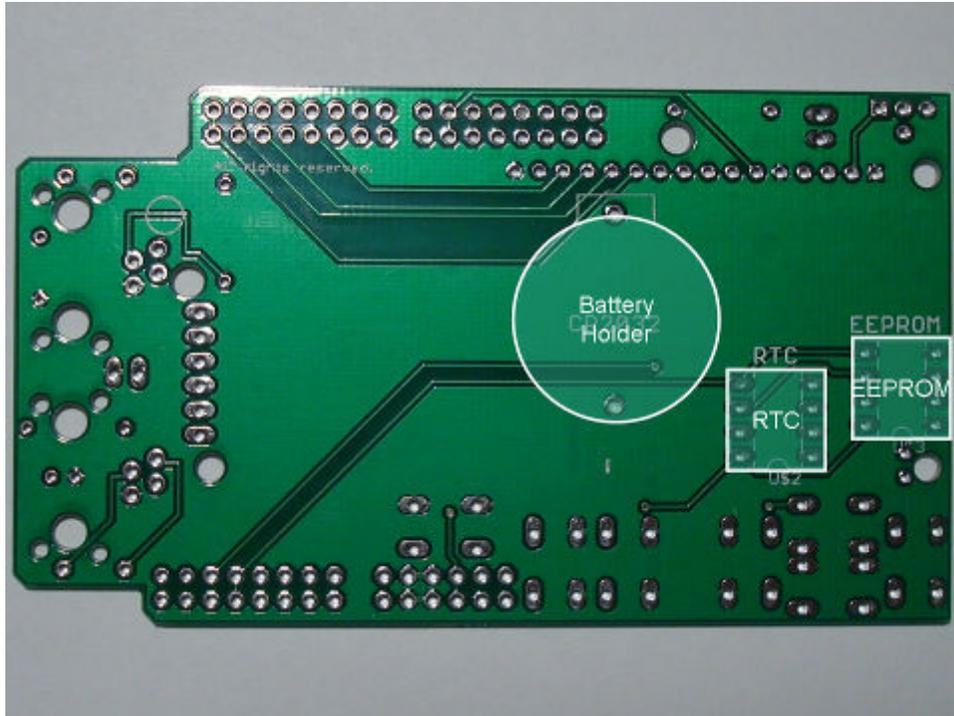

Fig. 4 Bottom side of the shield PCB with all parts marked.
11. Tape the 8-pin DIP sockets and the coin battery holder to the **BACK SIDE** of the board (Fig. 4). Be patient with the battery holder.